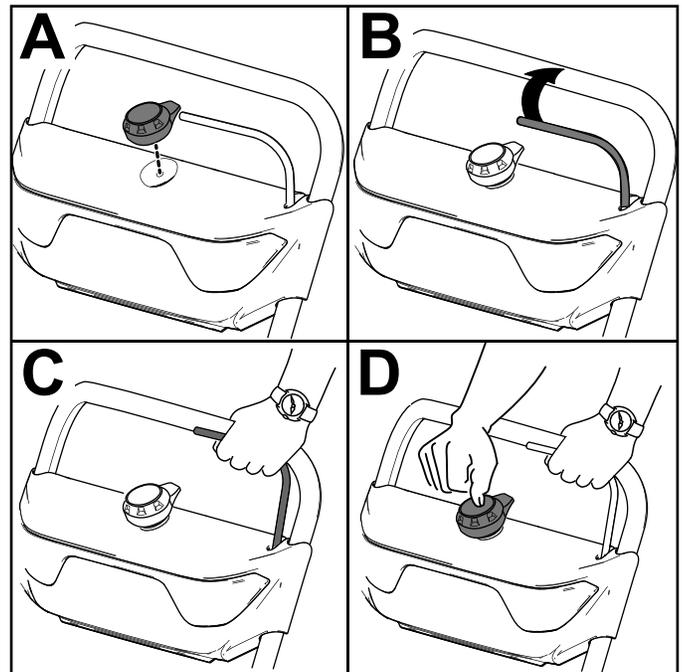

Figure 7
2. Insert the electric-start button into the electric starter (A of Figure 7).
3. Squeeze the bail and hold it to the handle (B and C of Figure 7).
4. Press the electric-start button until the motor starts (D of Figure 7).